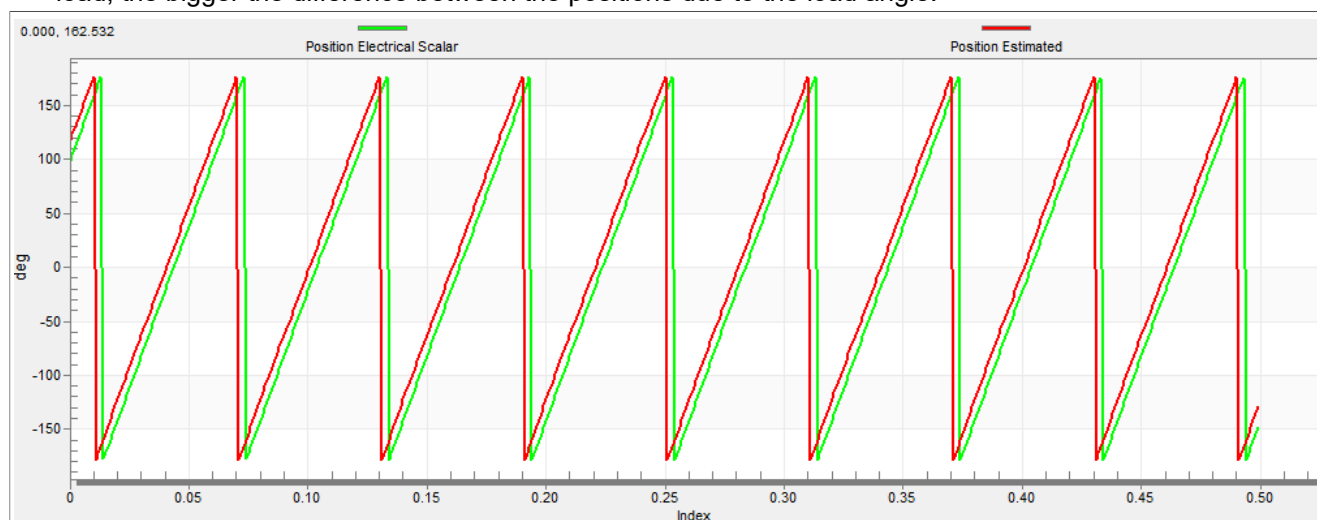

Figure 23. Generated and estimated positions
6. Select the "Position" recorder to check the observer functionality. The difference between the "Position Electrical Scalar" and the "Position Estimated" should be minimal (see Figure 23) for the Back-EMF position and speed observer to work properly. The position difference depends on the motor load. The higher the load, the bigger the difference between the positions due to the load angle.